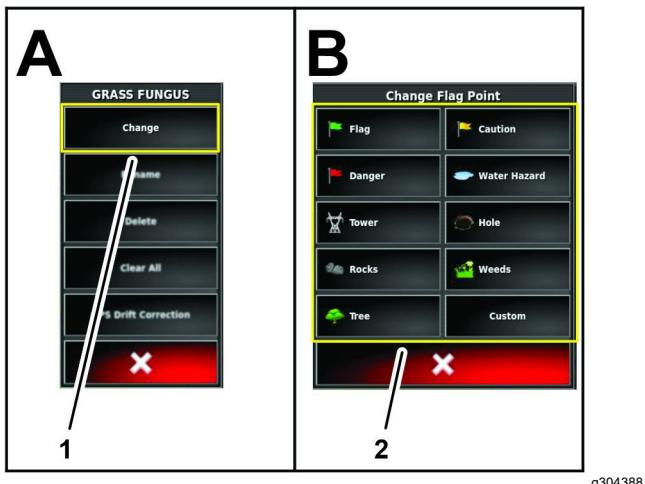

Figure 84
1. In the edit flag menu, press the CHANGE icon (Figure 84).
2. In the change flag point menu, press the icon for the flag-point type (Figure 84).